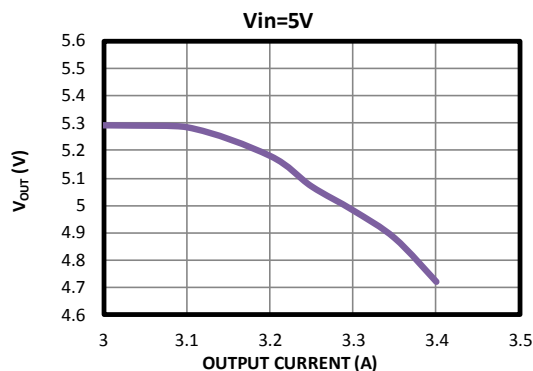

Figure 6: I-V Curve after OC is Triggered
If the over-current (OC) is triggered, and  $V_{OUT} < 3.5V$  lasts for 2ms, the MP5032 enters hiccup mode. If OC occurs but  $V_{OUT} > 3.5V$ , the MP5032 works in constant current (CC) limit mode without hiccup. In this case,  $V_{OUT}$  drops while the output current increases slowly. Figure 6 shows the curve of  $V_{OUT}$  versus the output current after triggering the 5V current limit.